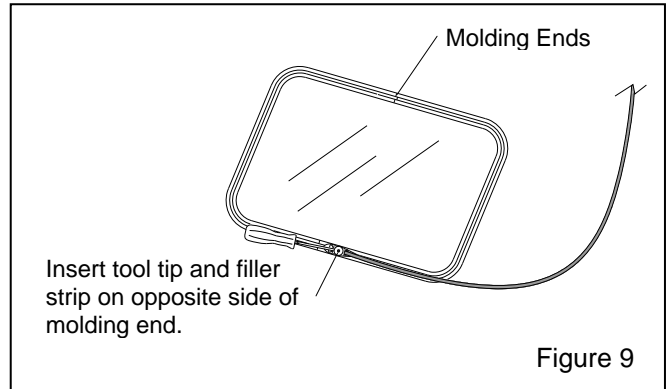

Figure 9
10. Insert the tool tip and filler strip into the filler strip channel of the molding, at the opposite side of the opening from the window molding ends, as shown in Figure 9. The rounded side of the filler strip faces up.